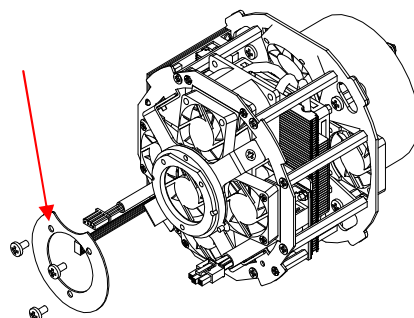

Fig.2
6. Place HPLED on working bench and start loosening the 3 M4 screws that hold the metal ring (marked by red arrow in figure 2).